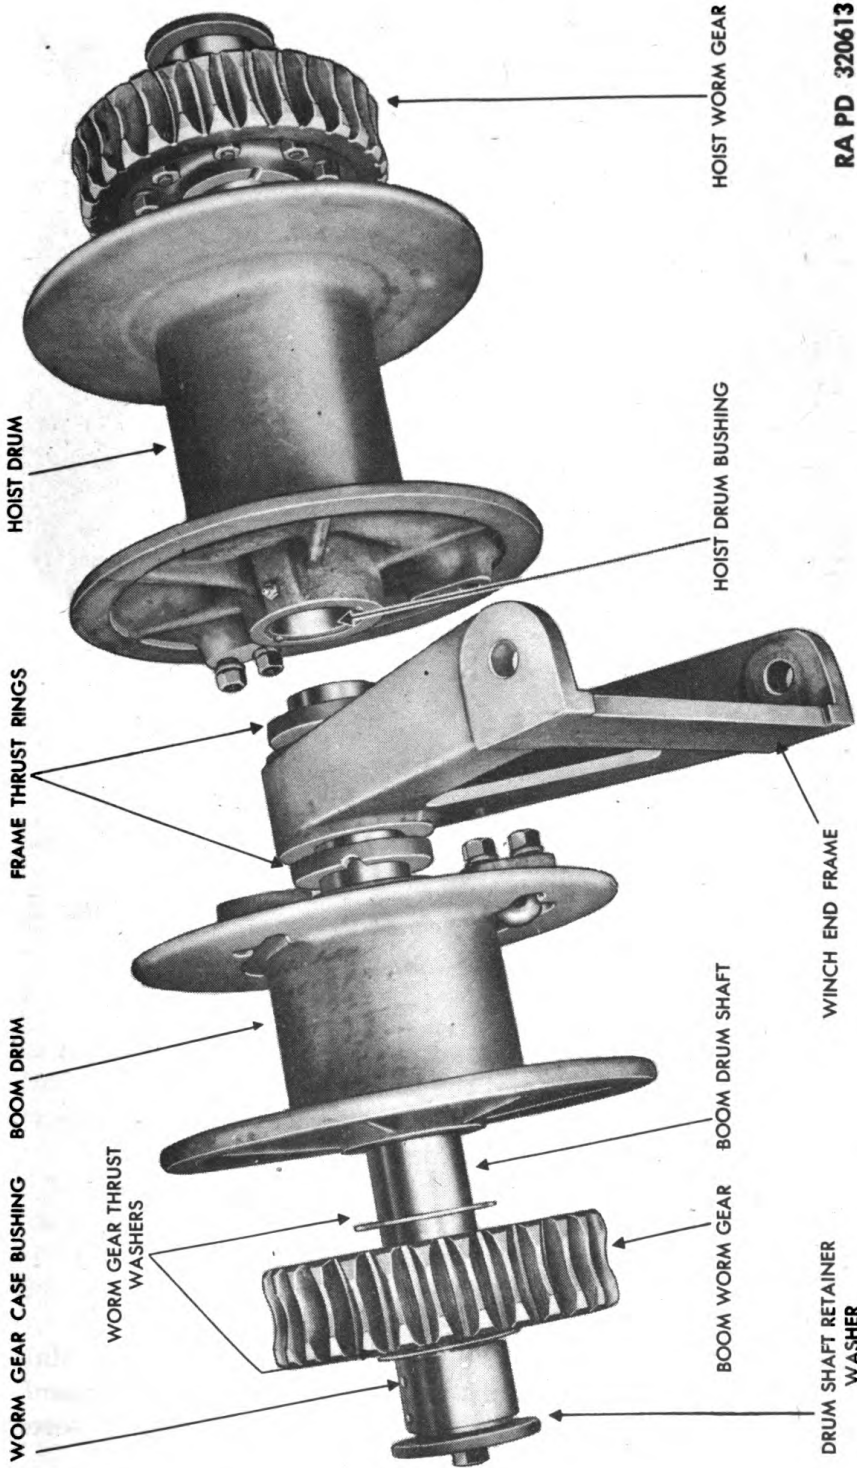
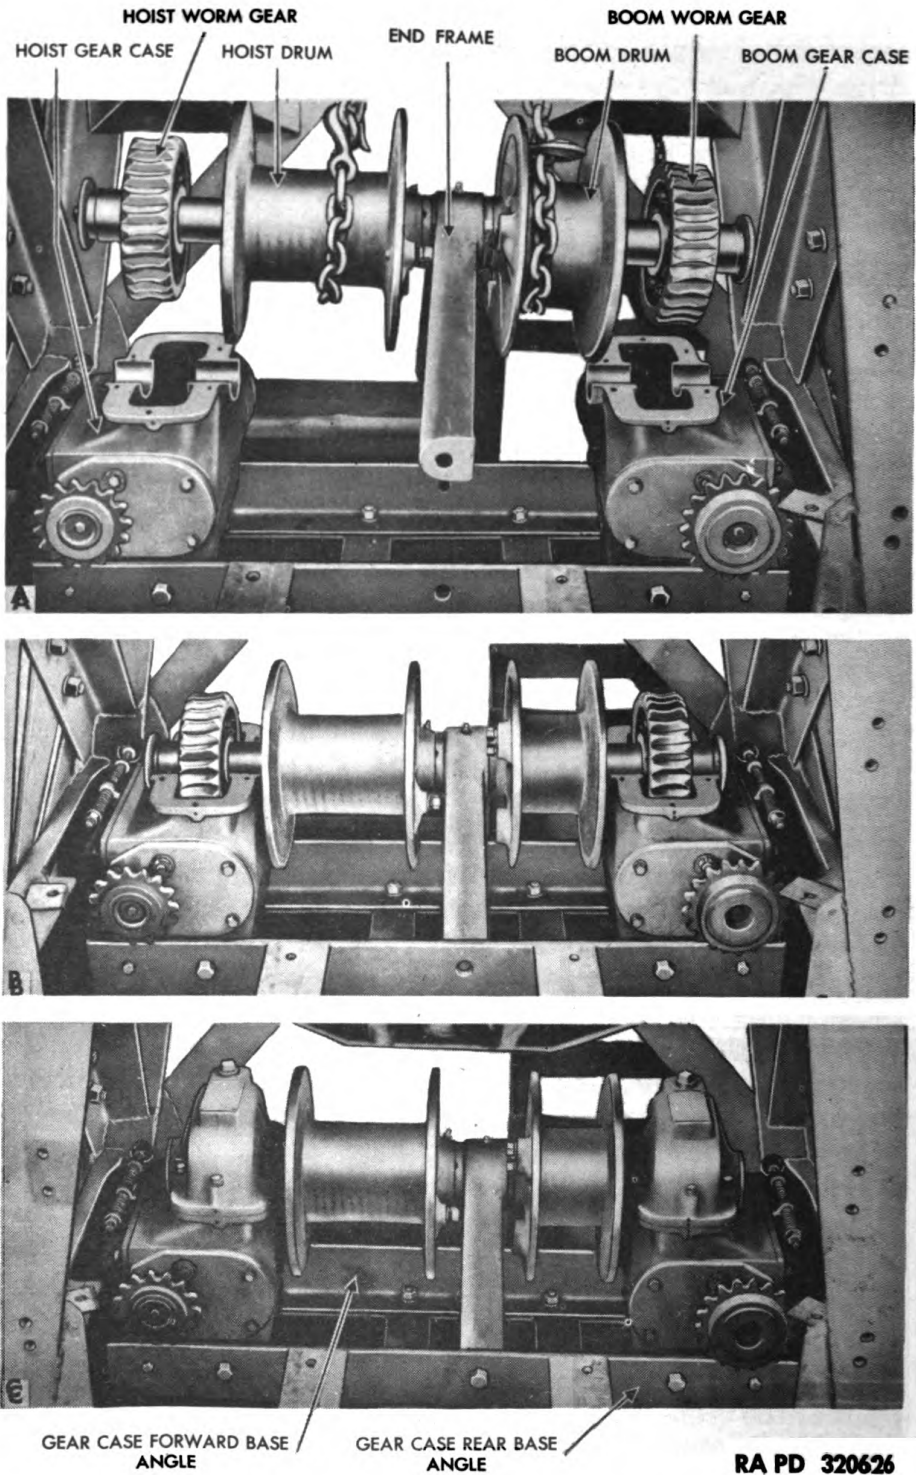

Figure 52 - Double Drum Assembly
Figure 65 — Installing Double Drum, Hoist, and Boom Gear Cases
a. Remove the drum shaft retainer washer cap screws, lock washers, retainer washer, and shims. Slide off the worm gear case bushings and the worm gear spider outer thrust washers (fig. 52). Remove the lubricating fitting from the end frame sleeve, and slide the sleeve out of the support. Press off the worm gear spider and boom and hoist cable drums, and lift out the keys for the worm gear spiders and drums. Remove the eight special ream bolts, nuts, and lock washers that attach each worm gear to its spider. These bolts must fit tight, and care should be taken not to damage the threads or upset the ends of the bolts when they are driven out. Remove the rope clamp nuts and lock washers, and slide the rope clamps out of the drums (fig. 53).
drum onto the shaft until a distance of $2\frac{1}{32}$ inches is obtained between the face of the drum and the thrust washer (fig. 55). Slide the outer thrust washer onto the shaft, and install the shaft bushings. Install the drum shaft shims, retainer washer, and lock washer under the head of the retainer washer cap screw. Install in the end of the drum shaft, but do not tighten the cap screws (fig. 52). Slide the end frame sleeve into the end frame, install the drum thrust washer on the boom drum shaft, and then slide the center support onto the shaft. Install the remaining frame ring. The lubrication grooves in both frame rings go toward the boom and hoist drums. Slide the boom drum shaft into the hoist drum (fig. 52). This assembly is installed in the hoist and boom gear cases at this stage of assembly.
a. Position Double Drum. Place worm gear and double drum in position. Set the boom drum shaft and worm gear on the boom pivot base plate. Set the end frame assembly and the hoist drum, shaft, and worm gear also on the boom pivot base plate, and assemble as outlined in paragraph 48 a (fig. 52). Using a bridal sling in the top of the crane A-frame, hook onto the two drums; with a chain hoist, raise the double drum and shaft assembly and lower into position in the bearing bores of the hoist and boom gear cases (A, fig. 65). When lowering the double drum assembly align the sleeve bearing dowel holes with the dowels in the gear cases. Make certain that the worm gear thrust washers are over against the worm gear spiders, and are not bent or damaged when the double drum assembly is lowered into the gear cases (B, fig. 65). Enter the end frame into the gear case base angles, and continue lowering the double drum assembly until it is in position (C, fig. 65). Slight rotation of the worm may be necessary to mesh the threads of the worms with the hoist and boom worm gears.
b. Install Hoist and Boom Gear Case Upper Halves. Install the hoist and boom gear case upper halves, using new gaskets. Install the gear case upper halves so that the punch marks on the upper and lower gear case halves are in alinement, and agree. Install six gear case cap screws and lock washers (C, fig. 65). Tighten down drum shaft retaining washer cap screws, and check clearance between the retaining washers and the gear cases. This clearance should be $\frac{1}{32}$ inch; if there is any variation in this dimension, subtract or add shims under the retaining washers as necessary. Install the end frame mounting bolts, nuts, and lock washers. Remove the gear case filler plugs, and fill with gear oil to the level plug located on the sides of the gear cases. Capacity is 2 quarts each.